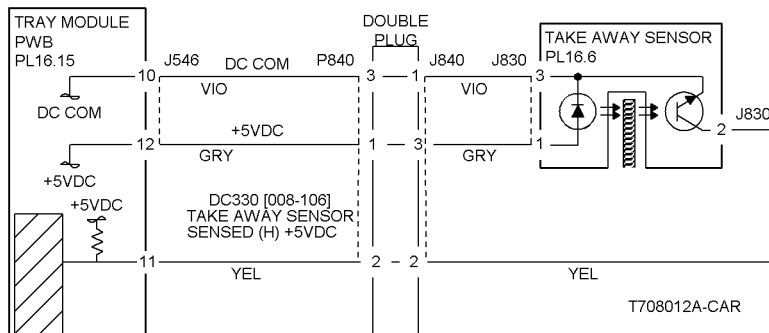
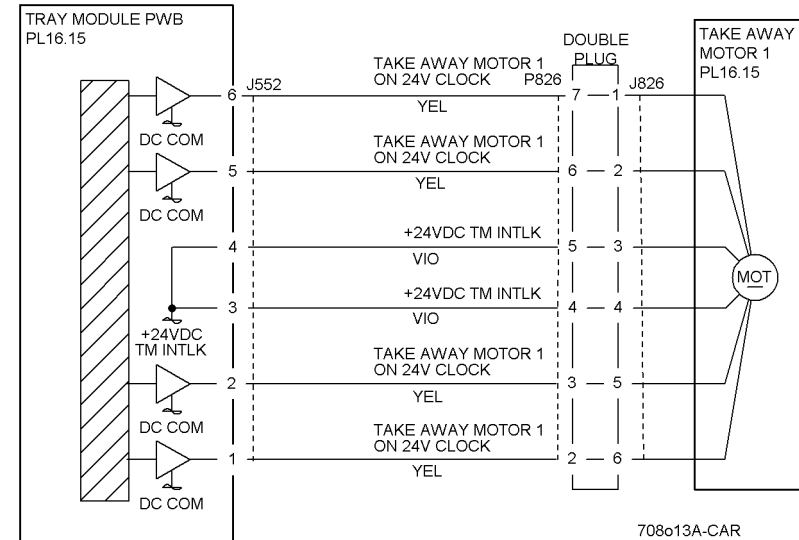

Figure 1 Takeaway Sensor CD
Figure 2 Takeaway Motor 1 CD
- Ensure that the connectors shown in the circuit diagrams (Figure 1, Figure 2) are securely connected and that the wires are not damaged.